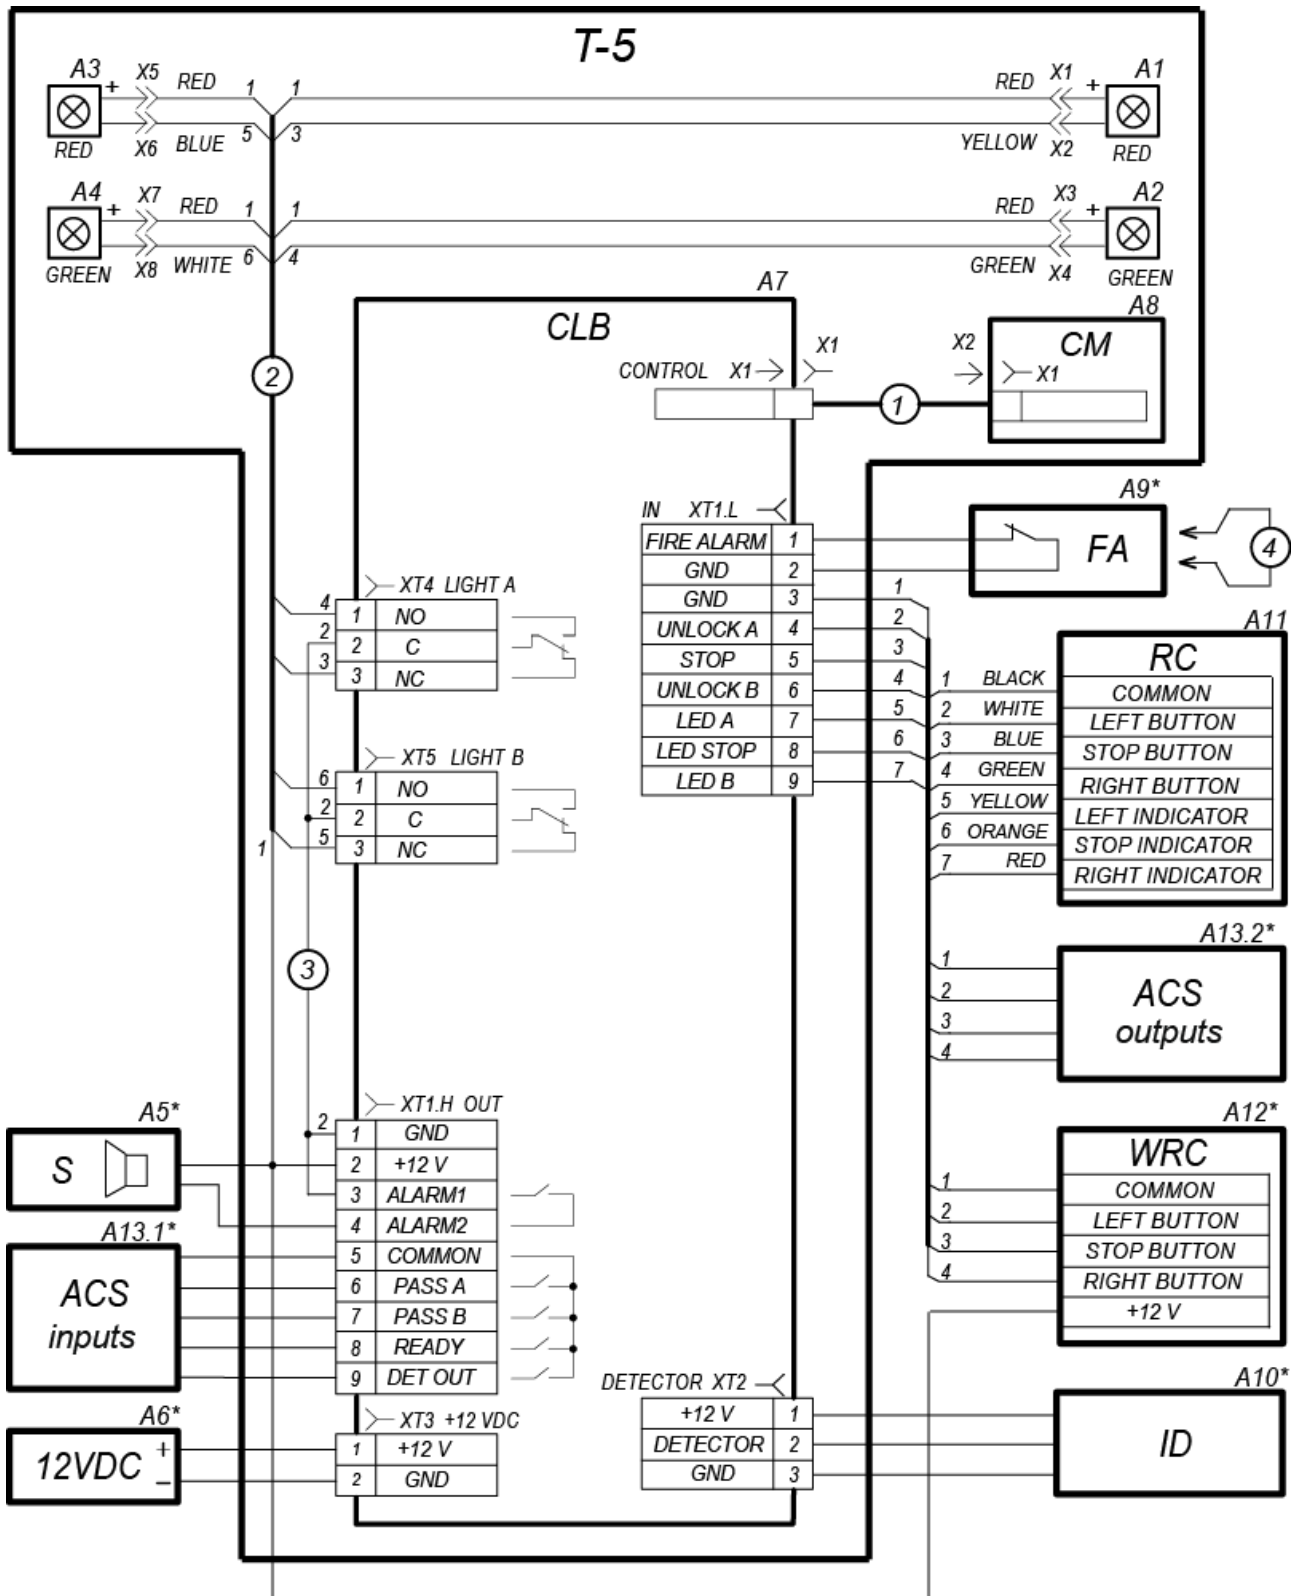

Figure 10. Connection layout
- 4 Remove the cover (4) as follows:
- 5 Place the power supply unit (7) in its designated location (refer to its documentation installation instructions).
- 6 Connect the power cable (8) from the turnstile power supply (7) to the CLB **XT3** connector block. Connect the RC-panel cable (6) to the CLB **XT1.L** connector block. Connect cables of all the other devices to the corresponding CLB connector blocks (ref. Fig. 2 and Fig. 10).
- 7 Check the accuracy, reliability and safety of all electrical connections. Using nylon cable ties included in the delivery set, fix all the cables in two points: to the special opening on the turnstile housing horizontal plane and to the special opening on the mechanical release lock inside the turnstile housing. Return the cover (4) back in its operative position in the order reverse to its removal.
- 8 To mount the barrier arms into the run position, remove the cover from the hub (12) after unscrewing the screw. Fit the barrier arm (2) into the mounting hole on the hub (12) and fasten it with the bolt. Put a spring washer under the bolt head. The bolts must be tightened so as to ensure reliable fixation of the barrier arms without a gap. Repeat the same for the other barrier arms.
Table 2. Legend to Fig. 10